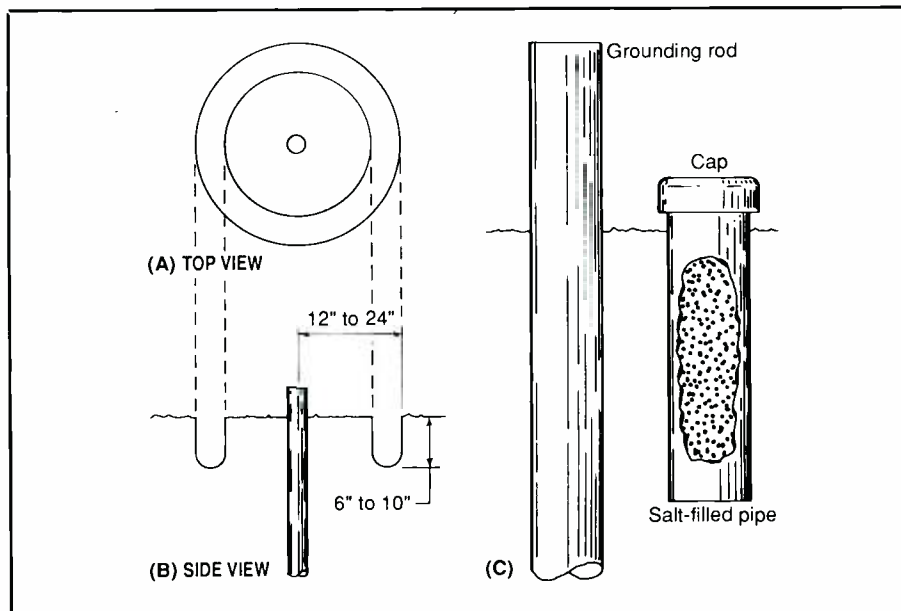

Fig. 3. Two methods of increasing the conductivity of soil: (A) top and (B) side views of a trench dug around the grounding rod and (C) a salt-pipe scheme.
Shown in Fig. 3 is a method for reducing the electrical resistance of the soil by treating the latter with either copper sulfate or common rock salt. The latter is one of several saline materials used for melting ice and snow. If you're unable to locate rock salt in a hardware or other store, look for a dealer who sells supplies for making ice cream; rock salt is a principal ingredient in making ice cream.
Figure 3 shows top (A) and side (B) views of a trench method for applying the chemical treatment. To make the trench, dig down 6 to 10 inches in a circle 12 to 24 inches around the grounding rod. Fill the
Shown in Fig. 3(C) is an alternative to